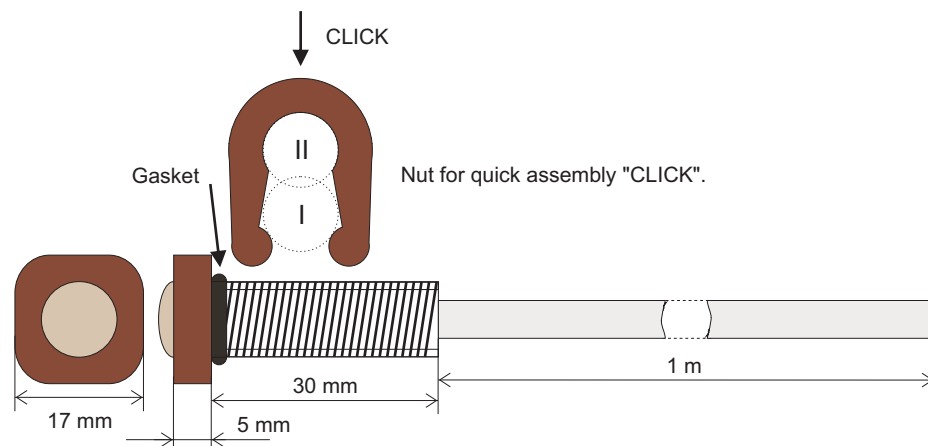

Fig. 1. Photosensitive sensor - design and dimensions.
2. mount the SENSOR using the special "CLICK" nut. The nut is designed to allow quick assembly. It has two zones I and II (Fig. 1). A hole must be drilled in the switch box with a diameter of 10 mm in a place lit by daylight. The wall thickness of the switch box cannot exceed 25 mm. After installing the SENSOR in the hole, push the nut on the SENSOR into zone I and after moving it along the SENSOR to the wall of the distribution box, push the nut into zone II. In zone II, the "CLICK" nut has a thread, so it can be screwed onto the wall of the distribution box